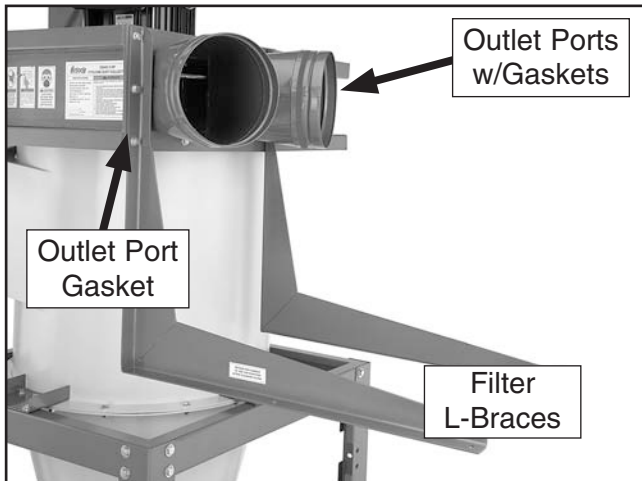

Figure 27. Filter L-braces mounted to blower housing.
28. Attach (1) 3 x 15 x 700mm gasket to the outer circular rims of each outlet port.
29. Mount the outlet port to the blower housing with (4) $\frac{5}{16}$ "-18 x 1" hex bolts, (8) $\frac{5}{16}$ " flat washers, and (4) $\frac{5}{16}$ "-18 hex nuts (see **Figure 27**).